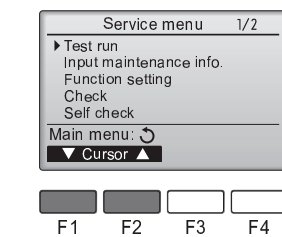

Fig. 7-3
- ③ Select "Test run" with the [F1] or [F2] button, and press the [SELECT] button. (Fig. 7-3)